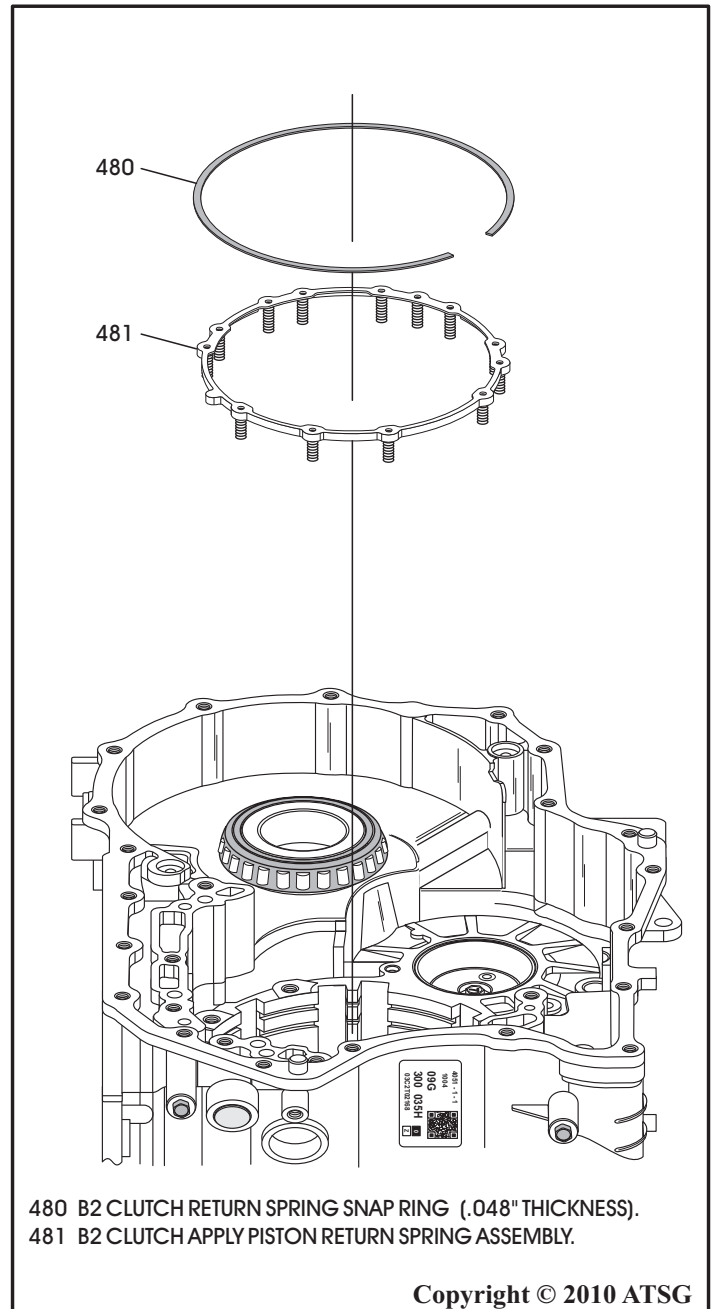

Figure 85
69. Remove the B2 clutch return spring retaining snap ring, as shown in Figure 85.
70. Remove the B2 clutch return spring assembly, as shown in Figure 85.